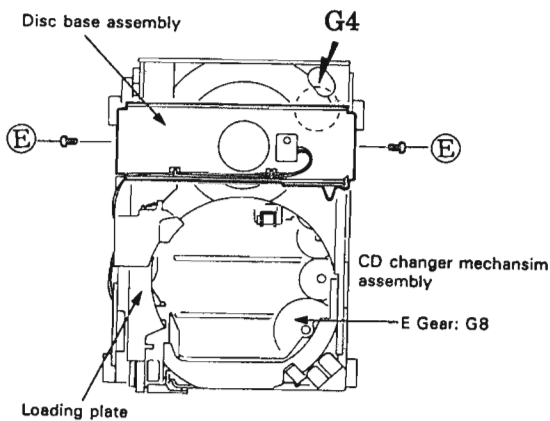
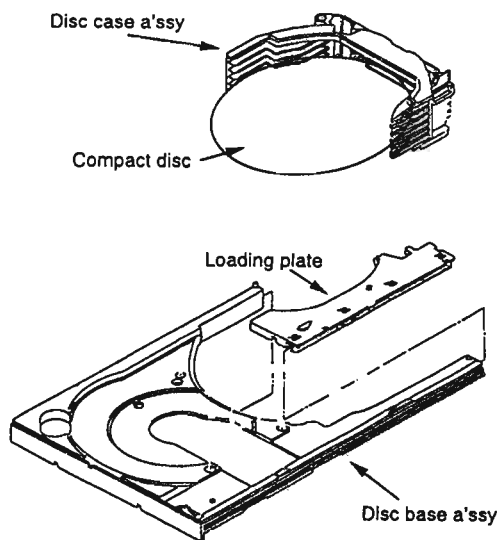

Fig. 6
Fig. 12
2. Take off 2 screws ⑤ securing the clamper base assembly.
3. Turn the gear G4 manually in the direction of arrow as shown in Fig.6, and lower the CD mechanism assembly.
- 2-1. Method of ejecting the compact disc on the disc base ass'y. (Refer to Fig.6)
- (1) Turn the gear G4 clockwise and lower the CD mechanism.
- (2) When the loading plate is located at the rear most position, move the plate to the front panel side (At this time, the compact disc will be set on the disc base ass'y by the loading plate).
- (3) By moving the disc base ass'y to the front panel side, take out the compact disc.
- 2-2. Method of ejecting the compact disc left on the disc case ass'y (Refer to Fig.12).
- (1) Move the loading plate to the rear most position.
- (2) Turn the E gear G8 (Refer to Fig.6) counterclockwise, and move up the disc case ass'y into which any compact disc has been loaded.
- (3) While turning the E gear G8, align the first compact disc (the lowermost compact disc on the disc case ass'y) to its loading position to the loading plate.
- (4) After the loading plate onto which the first compact disc is loaded has been moved to the front panel side, pull out the disc base ass'y from the front panel side and take out the compact disc.
- (5) Eject the second through sixth compact discs as well similarly according to the procedures in Items (1) through (4).